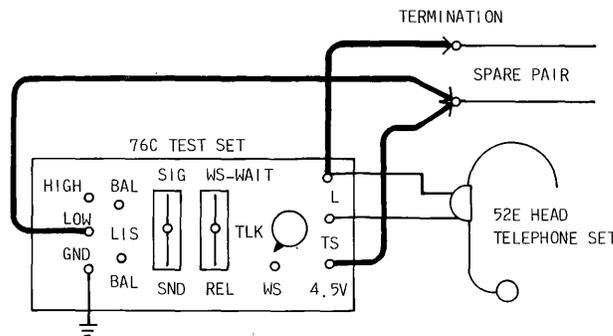

Fig. 22—Selecting Good Spare Pair
- Select a good spare pair at the termination and connect the talking set as shown in Fig. 22.